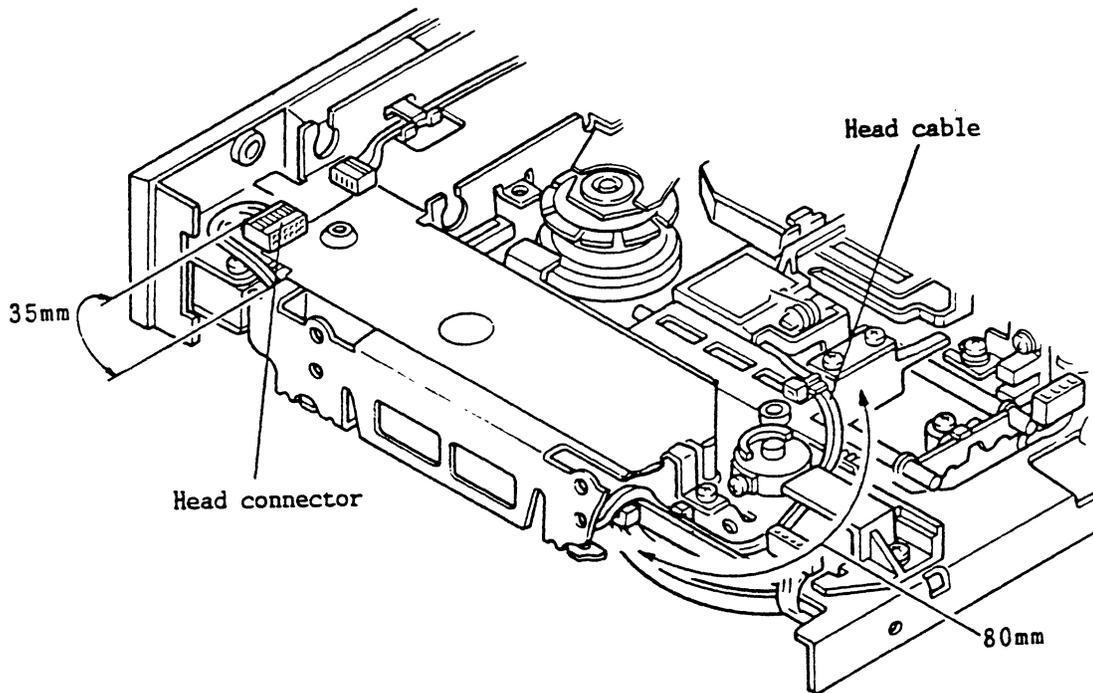

Fig. 404-1
- (1) With the head carriage set at track 00, fasten the head cable so that it has a suitable length using the disk guide cable clamper. A length of approximately 80mm from the head carriage outlet to the tab is sufficient. Make sure the head cable does not catch on the back end of the steel band. (Refer to Fig.404-1, 2)
- (2) Pass the head cable under the chassis, press down the tab, and hold the head cable under the chassis with the cable clamper. The length of the cable between the tab and the cable clamper should be about 45mm.
- (3) Pass the head cable through the U-groove of the disk guide, bring it out above the chassis and plug into the head connector.